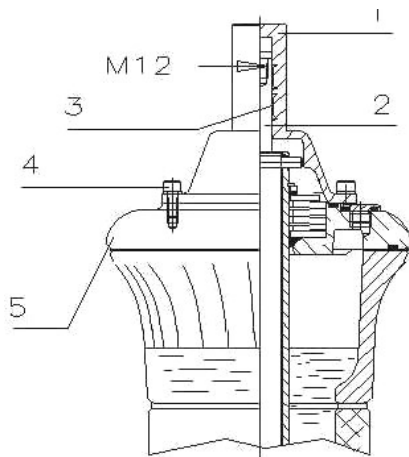

Fig. 14
The procedure is similar as above (fig. 14), but now instead of a lug it is used a conductor that is placed inside the bushing all along it and coming out from the bottom part.
- Withdraw the terminal from the lug (Fig. 11A and fig. 14). For this operation it is necessary to draw the terminal in longitudinal way and, at the same time, rotating a little in clockwise and counter clockwise direction.